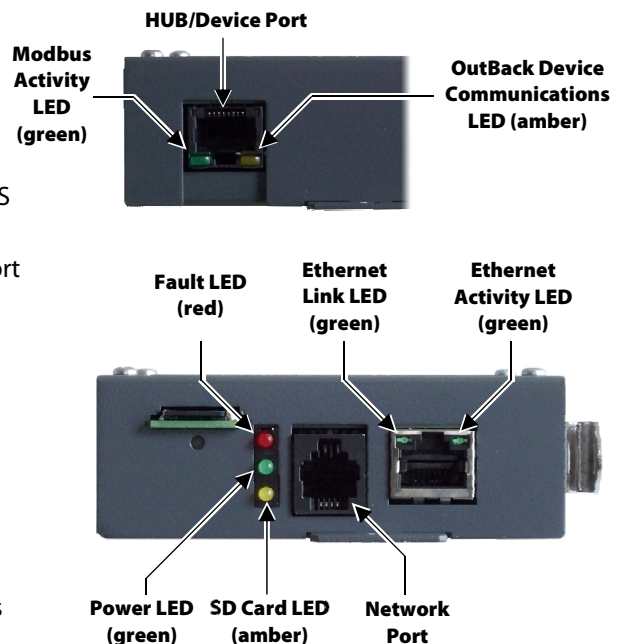

Figure 7 LED Indicators
1. Connect the CAT5 cable from the OutBack device to the connection labeled "HUB Port" on the AXS Port. The Power LED will illuminate. See Figure 7.
3. Connect the other end of the network cable to the network or Internet. When an Ethernet link is established, the Ethernet Link LED will illuminate. See Figure 7.
- If the microSD card will be used for logging data, insert the card into the slot. When the SD card is inserted correctly, the SD Card LED will illuminate. See Figure 7.